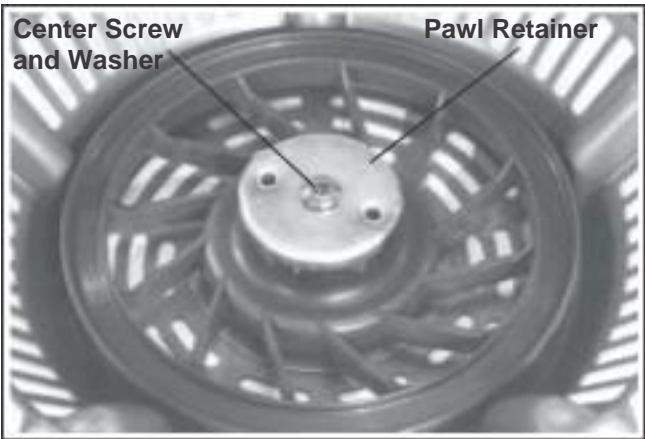

Figure 7-5. Center Screw, Washer and Pawl Retainer.
- 2. Remove the center screw, washer, and pawl retainer. See Figure 7-5.